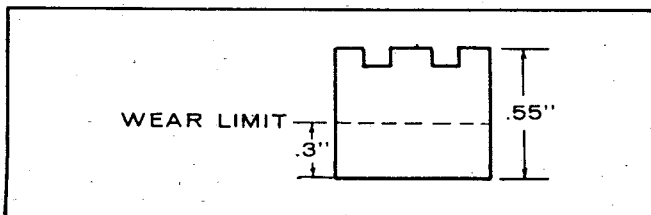

FIGURE 29. BRUSH WEAR LIMIT
8. **Inspection of Brushes:** When brushes are worn more than .3" they are to be replaced. Figure 29 shows the wear limit. See that the brushes move smoothly in the brushholders.